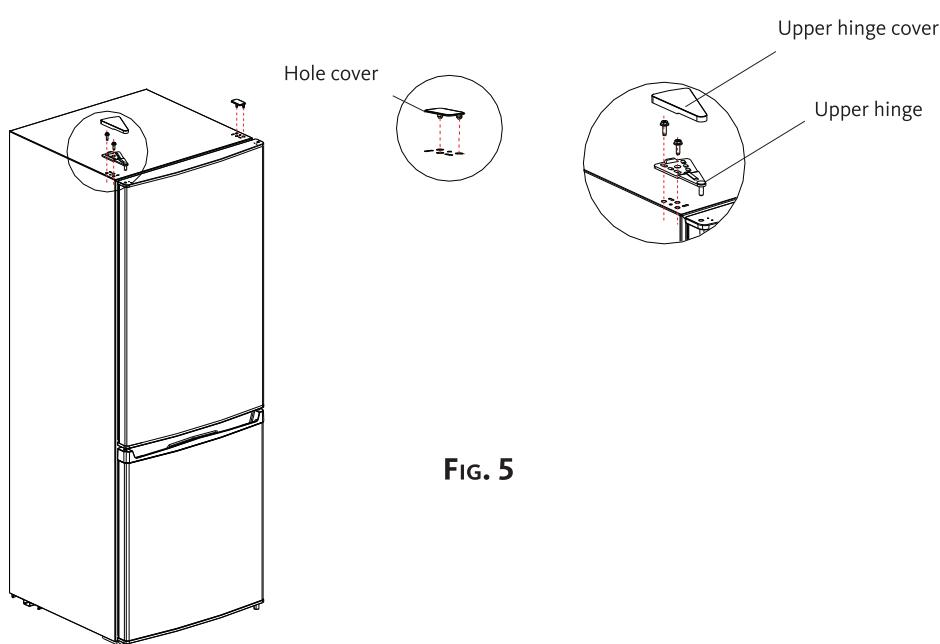

FIG. 5
- Put the refrigerator compartment door back on the middle hinge by pressing it against the appliance. Be sure to align the door with the appliance. Put the upper hinge and the upper hinge cover back on, then put back the hole cover back on the other side (see figure 5).